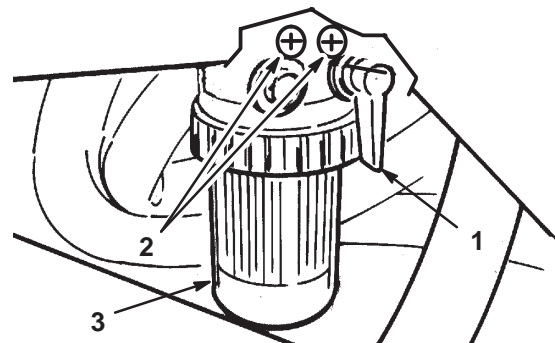

Figure 35
3. Open the fuel shut-off valve under the fuel tank and on the fuel filter (Fig. 35).
4. Open the 2 bleed screws on the side of the fuel filter mounting head (Fig. 35), allowing the bowl to fill with fuel. Close the bleed screws when the bowl is filled.